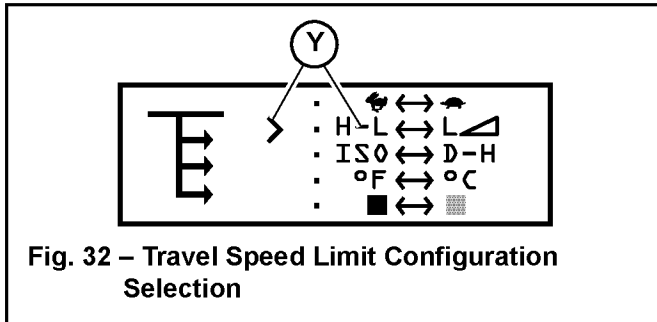

Fig. 32 – Travel Speed Limit Configuration Selection
1. Hold down the interface button (Z, Fig 31) on the multi-function display until the configuration selection screen (Fig 32) displays.